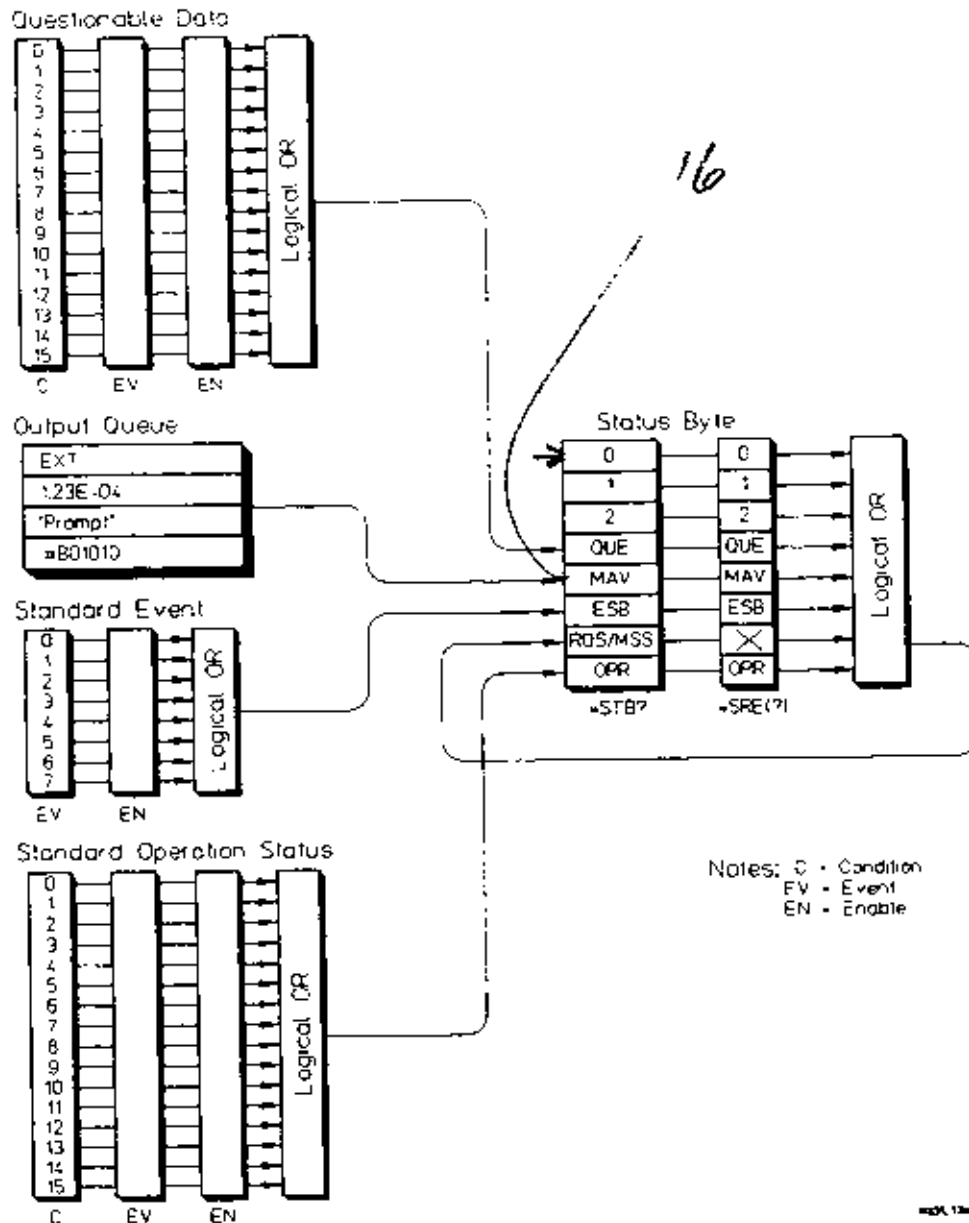

Figure 5-1. Status System Registers
**STATUS** The STATUS subsystem lets you examine the status of the counter by monitoring the Operation Status Register and the Questionable Data/Signal Register. *Figure 5-1* shows all of the counter's status registers.
The Operation Status Register group consists of a condition (C) register, an event (EV) register, and an enable (EN) register as shown in Figure 5-1. The commands in the STATUS:OPERation subsystem control and monitor these registers.
The Questionable Data Register group consists of a condition register, an event register, and an enable register as shown in *Figure 5-1*. The commands in the STATus:QUESTionable subsystem control and monitor these registers.